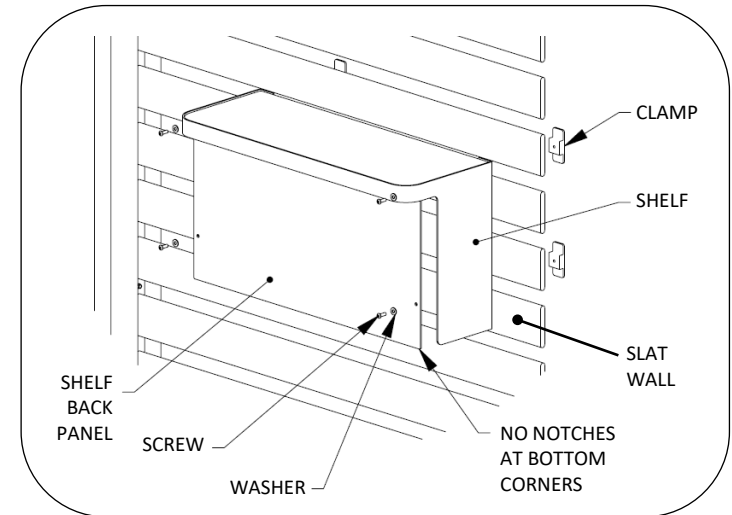

Fig. 1– INSTALL SHELF
2. Align shelf, back panel, screw and washer from the front side of the wall panel and place a clamp on the back side of the panel. Drive screw into clamp to secure. Repeat for all four clamps. See Fig. 1.